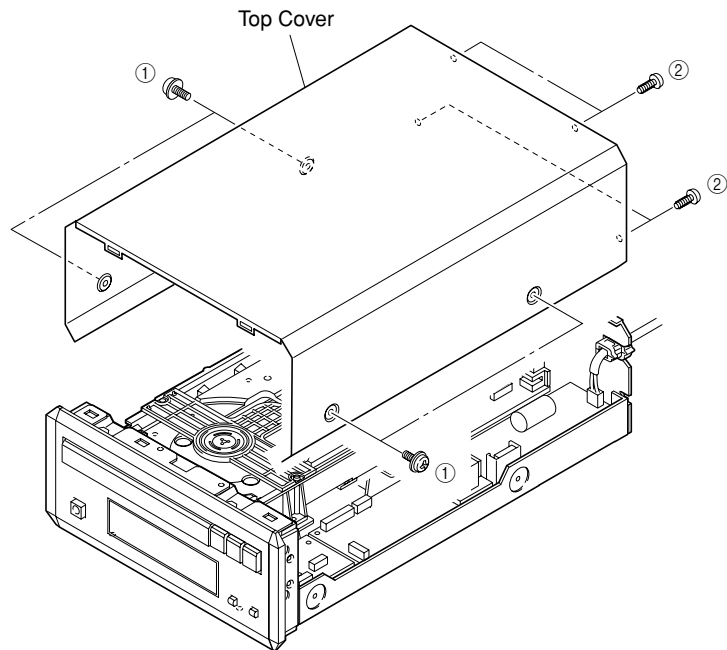

Fig. 1
- Remove 4 screws (①), 4 screws (②). (Fig. 1)